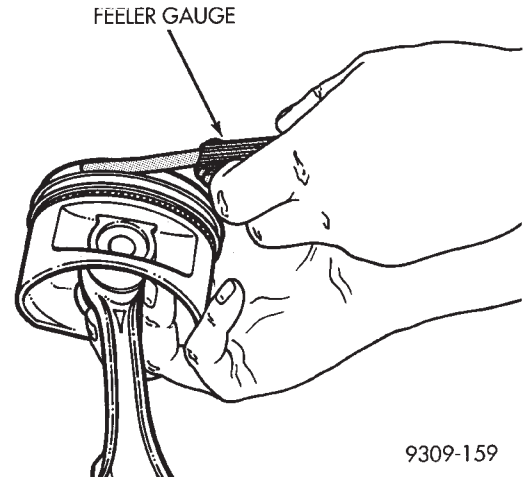

Fig. 11 Measuring Piston Ring Side Clearance
(2) Check piston ring to groove clearance: (Fig. 11). Refer to specification (Fig. 10).